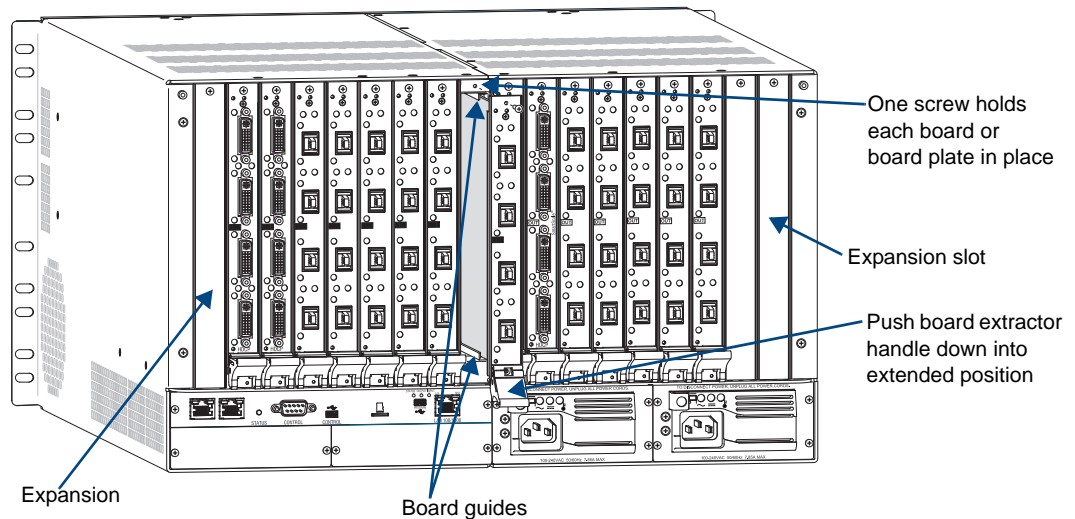
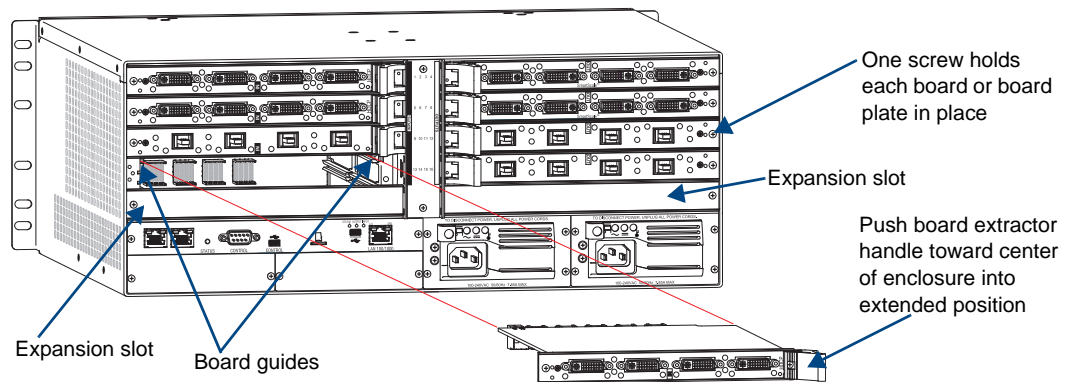

FIG. 106 Enova DGX 32 - Remove screw, push board extractor handle down, and then pull board straight out
FIG. 107 Enova DGX 16 - Remove screw, push extractor handle right (input) or left (output), pull board straight out
5. **Remove blank board plate** – Remove the screw that holds the board plate in place (for Enova DGX 32, see FIG. 106; for Enova DGX 16, see FIG. 107). Pull the plate out of the board slot opening (the tab on the end of the board plate fits in a slot near where the ejector handle would otherwise go). The plate consists of an aluminum sleeve with a black metal piece, which slides in and out of the sleeve, and an EMI (Electromagnetic Interference) gasket.
Remove current board – Remove the pan head screw that holds the board in place (for the Enova DGX 32, see FIG. 106; for the Enova DGX 16, see FIG. 107). Push on the board's extractor handle as far as it will go (about a 45° angle). With the handle extended, carefully pull the board straight out of the board slot. Place the board in an ESD approved static shield bag and set aside.
These boards can only be installed in an expansion slot (FIG. 106 and FIG. 107).
7. **Install board in Enova DGX 32** – With the board’s extractor handle in the extended (unlocked) position, line up the board’s edges on the board guides that are along the top and bottom of the board slot (FIG. 106).
Install board in Enova DGX 16 – With the board’s extractor handle in the extended (unlocked) position, line up the board’s edges on the board guides that are along the left and right of the board slot (FIG. 107). Note that input boards have board guides at the top of the slot and board guides for the output boards are at the bottom of the slot due to their reversed orientation in the enclosure.